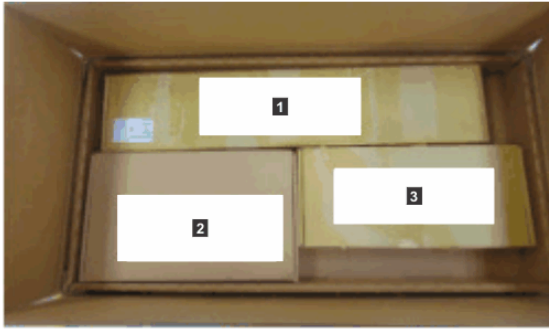

Figure 49. Tray containing expansion enclosure parts
The 5U expansion enclosure and most parts are shipped together in one large box. A tray on the top of the enclosure contains the front fascia (1U and 4U pieces), the cable management arm (CMA), and the slide rail kit; you must install these parts. Figure 49 on page 52 shows how the enclosure is packaged for shipment.
- 6. Remove the support rail kit from the box in which it was shipped (**1**, as shown in Figure 49 on page 52).
- 17. Remove the cable management arm assembly from its packaging (**2** in Figure 49 on page 52).